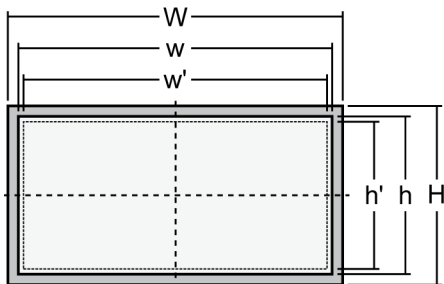

Fig. 10: Cutout schematic
1. ➤ Cut out the panel according to the dimensions in Fig. 10.